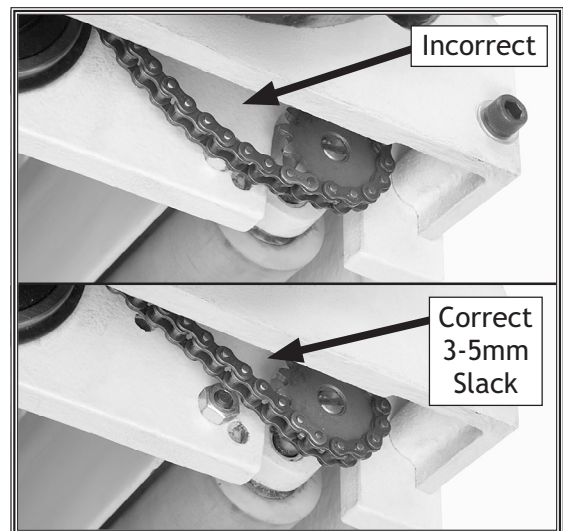

Figure 58. Chain adjustment.
The sprocket shafts on this machine must be free floating with no chain tension against them. The chain should have approximately 3-5mm (Figure 58) of hanging slack to ensure that the shafts are not always tensioned. However, the chain must still be tight enough so it does not skip sprocket teeth.
4. Use a 4mm hex wrench to adjust the tensioner until there is 3-5mm of hanging slack (Figure 58).